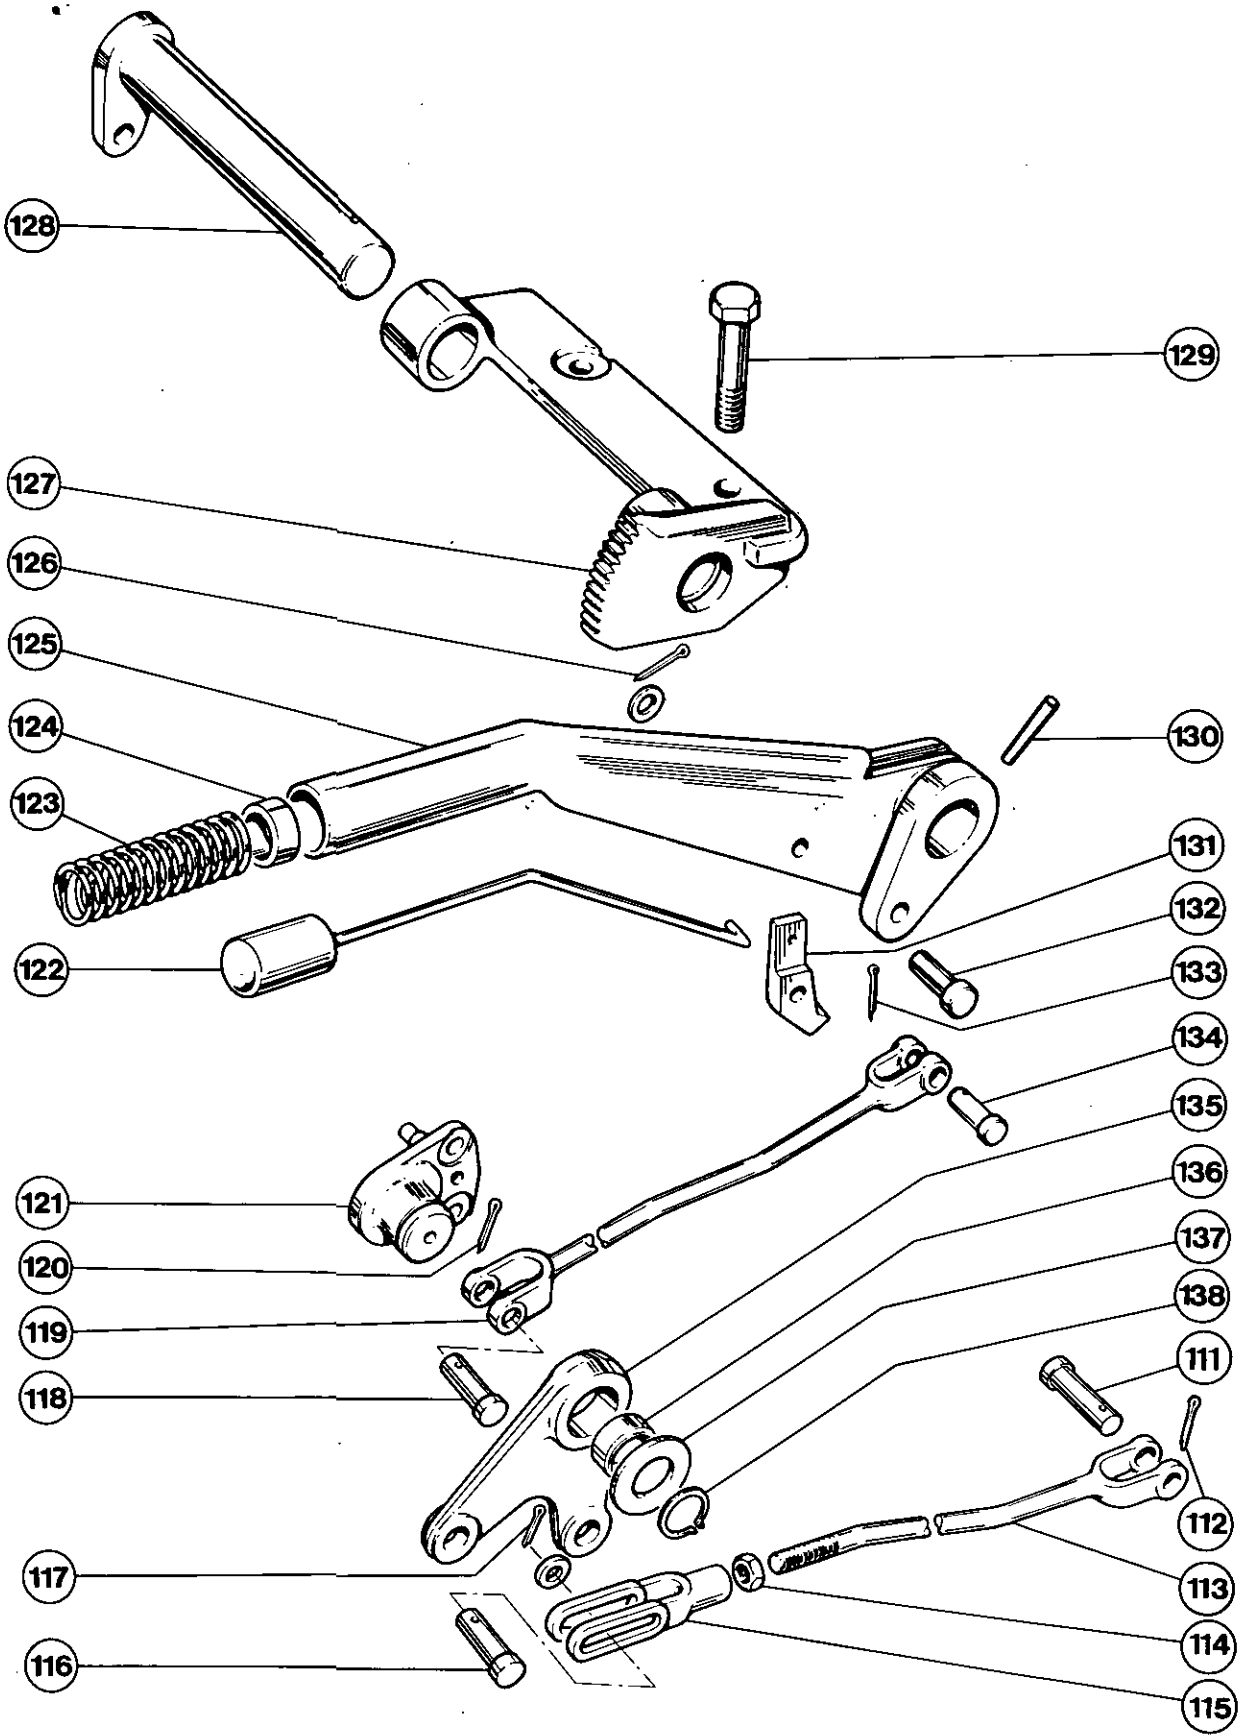

FIG. 44
1. Fig. 44. Remove the split pin (126), washer, and clevis pin (132) from the lever to the rod (119), then remove the split pin (120) and clevis pin (118) and lift off the rod (119).
2. Remove the split pin (117) and clevis pin (116) securing the brake rod clevis (115), then remove the split pin (112) and clevis pin (111) securing the brake rod (113) to the brake lever.
3. Remove the circlip (138) from the pivot shaft (121), then remove the washer (137) and the pivot arm (135).
4. Repeat items 1 to 3 for the opposite side of the tractor, if necessary.
5. Remove the two bolts (129) securing the lever assembly (127) to the lift cover.
6. To disassemble the lever assembly, withdraw the taper pin (130), then pull the cross shaft (128) and lift off the lever (125).
7. To remove the pawl (131), remove the split pin (133) and clevis pin (132), then disengage the pawl from the actuator (122).
8. Pull the actuator (122), spring (123) and the stop (124) from the lever.